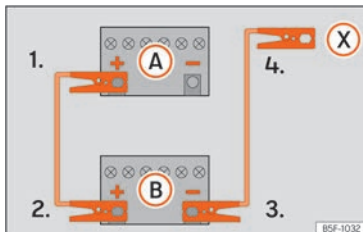

Fig. 43 Diagram of connections for vehicles without Start-Stop system.
2. Connect one end of the *red* jump lead to the positive (+) terminal of the vehicle with the flat battery (A) » » » Fig. 43.
3. Connect the other end of the *red* jump lead to the positive terminal (+) in the vehicle providing assistance (B).
- 4a. *In vehicles without a Start-Stop system:* connect one end of the *black* jump lead to the negative terminal (-) of the vehicle providing the current (B) » » » Fig. 43.